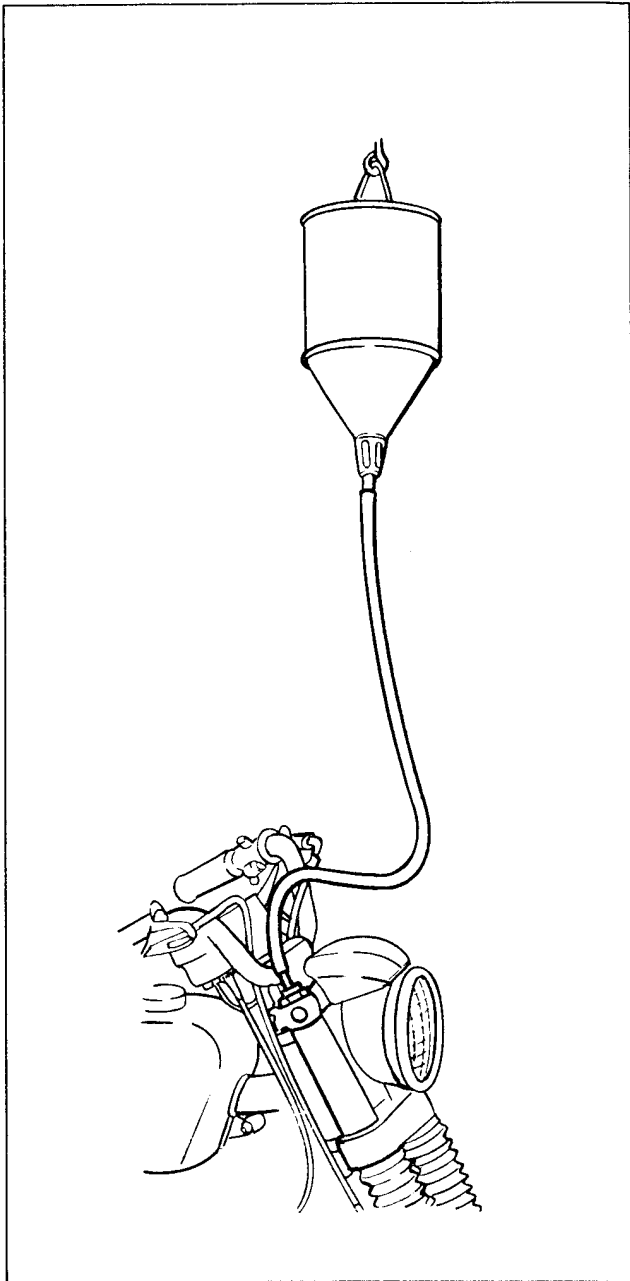

Figure 2-19. Filling Hydraulic Fork with Oil
5. Slightly flare one end of a piece of 1/4 in. tubing (6), about 2 in. long and insert into plug (7). Attach filler can to plug with transparent flexible tubing (5) about 2 feet long. See Figure 2-19.
6. Push the plug into the filler hole in fork top, Figure 2-19. Pour exact amount of oil into can. Work fork up and down. Air escaping through oil in filler can as fork is pushed downward will cause the oil to bubble violently, but because the bottom of the can serves as a baffle, no oil will be lost. Compressing the fork forces air out, releasing it draws oil into fork.